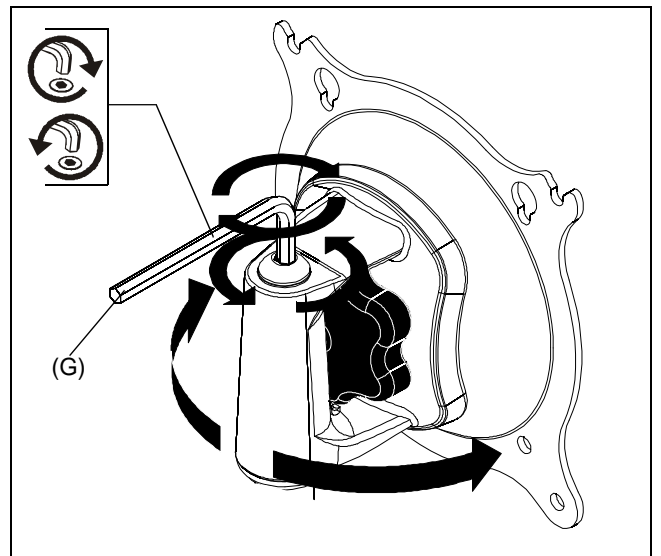

Figure 7
- Using hex wrench provided (G), turn adjustment screw clockwise to increase tension or counter-clockwise to decrease tension. (See Figure 7)